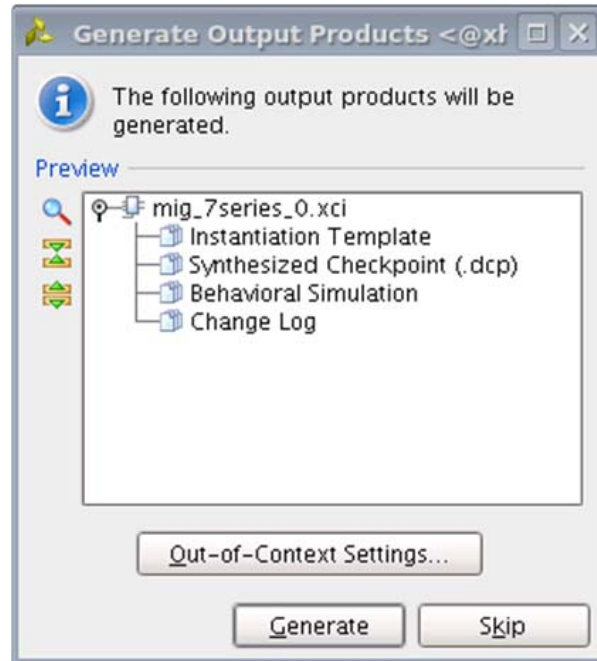

Figure 5-19: **Generate Output Products Window**
1. After clicking **Generate**, the **Generate Output Products** window appears. This window has the **Out-of-Context Settings** as shown in Figure 5-19.